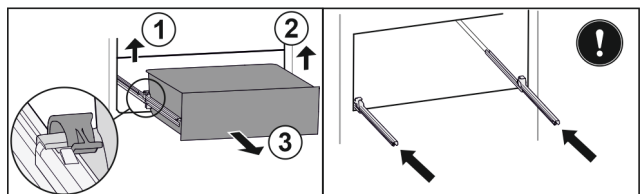

Fig. 110
- ▶ Lift left clamp and simultaneously pull drawer forwards on the left. Fig. 110 (1)
- ▶ Lift right clamp and simultaneously pull drawer forwards on the right. Fig. 110 (2)
- ▶ Remove drawer to the front. Fig. 110 (3)